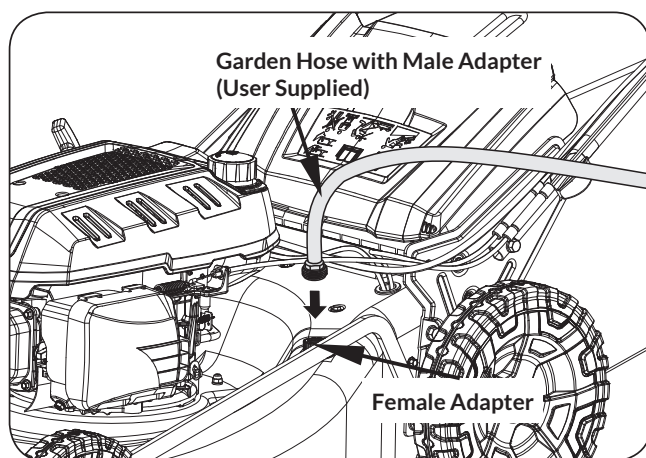

Figure 20
- Attach the garden hose with a male adapter (user supplied) to the female adapter on your deck's surface. (See **Figure 20**).